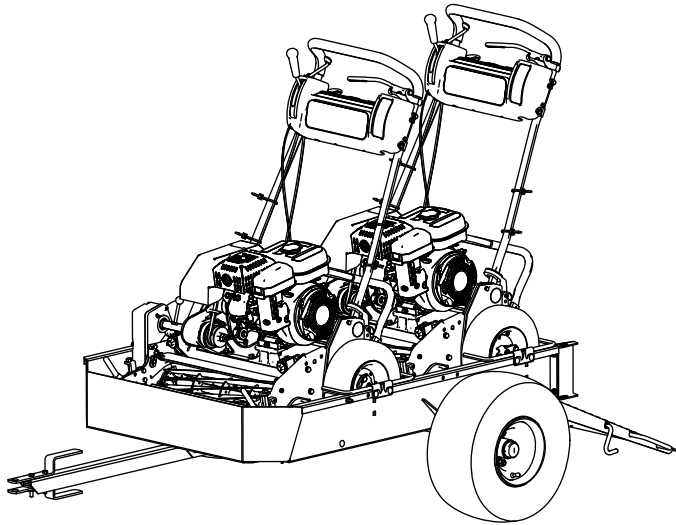

Figure 6
**Note:** Use the first set of wheel rods as the stop for the second machine (Figure 6).